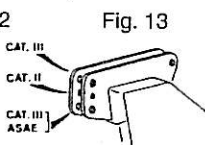

Fig. 13
4. Category III – ASAE standard quick hitch (see fig. 13 & 14)